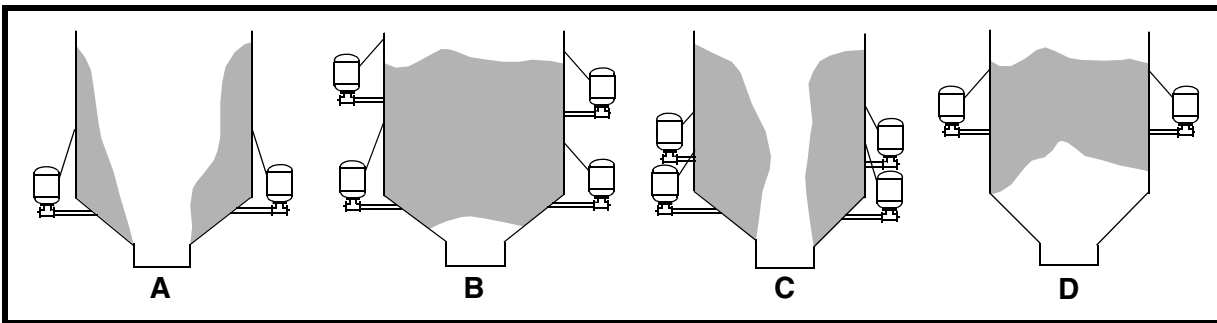

Figure 1. Restricted Material
The BIG BLASTER® XHV Air Cannons are pneumatic, bulk material-moving systems that quickly release compressed air into a storage vessel to restore flow to material that is clinging (A), bridging (B), rat-holing (C), or arching (D) (see Figure 1). This manual provides instructions for installing cannons on steel structures only. For installations on other structures, call Martin Engineering or a representative.